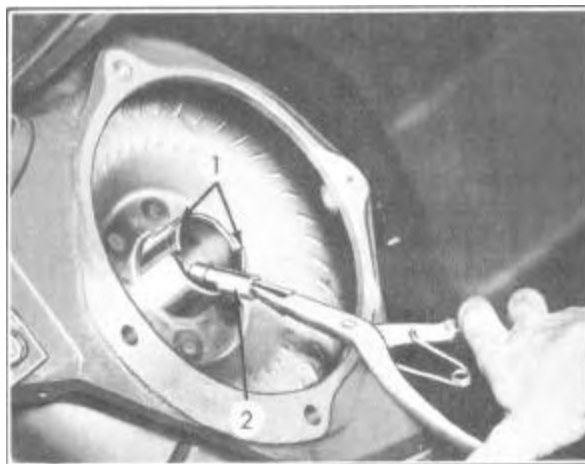

FIGURE 135
10. The mainshaft oil transfer tube (2), Figure 135, must be removed from the converter if it does not come out when the transmission is removed